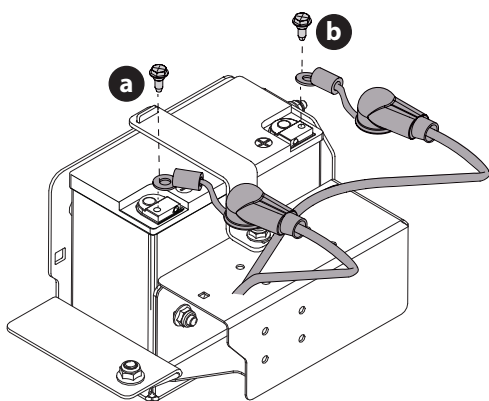

Fig. 20
NOTE: The positive battery terminal is marked POS. (+) (a). The negative battery terminal is marked NEG. (-) (b) (Fig. 20).
NOTE: If the positive battery cable (c) is already attached, skip ahead to Step 4 (Fig. 20).
2. Slide the red boot (d) from the positive battery terminal (a) and attach the red cable (c), with the vertical mount bolt (e) (Fig. 20).
3. Position the red boot (d) over the positive battery terminal (a) to insulate it and help protect it from corrosion (Fig. 20).
4. Slide the black boot (g) from the negative battery terminal (b) and attach the black cable (f) to the negative battery terminal (b) with the vertical mount bolt (e) (Fig. 20).
5. Position the black boot (g) over the negative battery terminal (b) to insulate it and help protect it from corrosion (Fig. 20).